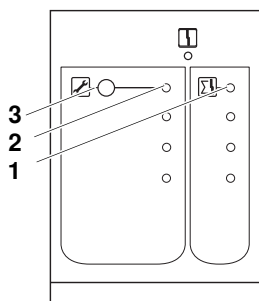

Fig. 2 Front panel of FM 448 function module
If a current group fault has occurred in the control or the control system, the "Group Fault" LED (Fig. 2, **Item 1**) in the FM 448 function module lights.
- Press the "Service/alarm Reset" button (Fig. 2, **Item 3**) until the "Service/alarm Reset" LED (Fig. 2, **Item 2**) lights to switch off the connected alarm device temporarily (maximum 2 hours).
If the heating contractor has activated the "Service" function, the "Service/alarm Reset" LED (Fig. 2, **Item 2**) in the FM 448 function module lights.
The "service" function can be disabled immediately by pressing (Fig. 2, **Item 3**) again.